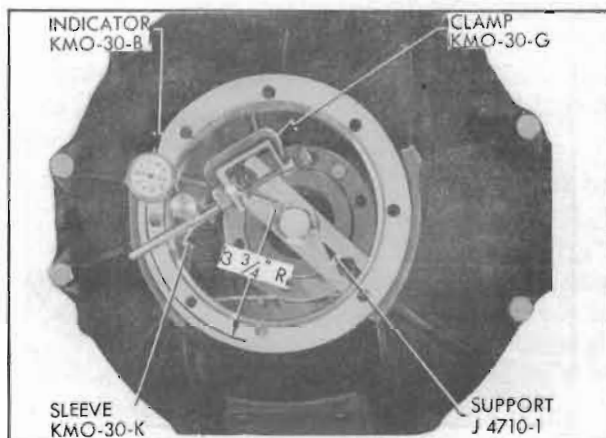

Figure 2-45—Checking Runout of Rear Face of Bell Housing
3. Attach Indicator Support J 4710-1 to crankshaft flange with two opposite flywheel bolts. See figure 2-45.
tor KMO-30-B on the indicator support so that dial indicator bears against rear face of bell housing at a radius of $3\frac{3}{4}$ ". See figure 2-45.